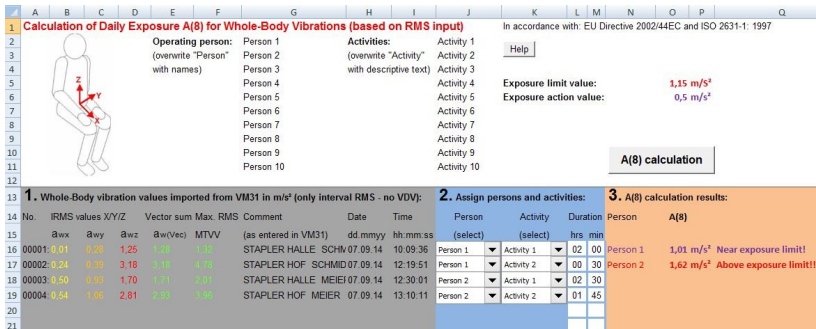

Figure 45: Daily exposure calculation in Excel
Click “A(8) calculation” or, in the case of VDV, “Daily exposure calculation” to calculate the vibration exposure (Figure 45). The result(s) will be compared with the limits stated in the EU directive 2002/44/EC and are displayed in various colors: